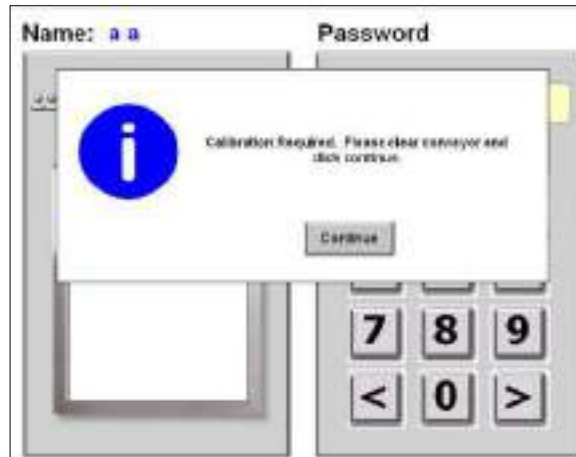

Figure 24: “Calibration Required” screen
1. Switch the key-switch to the "ON" position. After a brief warm-up, the following message will appear (Figure 24). Click "Continue."